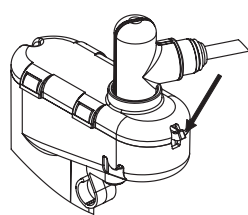

Figure 14b
- If you want to stop filling the bowl ahead the schedule, click on the button at the end of the shutoff (fig. 14b).
- Disconnect the tip from the shutoff by pressing the button located on the shutoff end (fig. 14b).